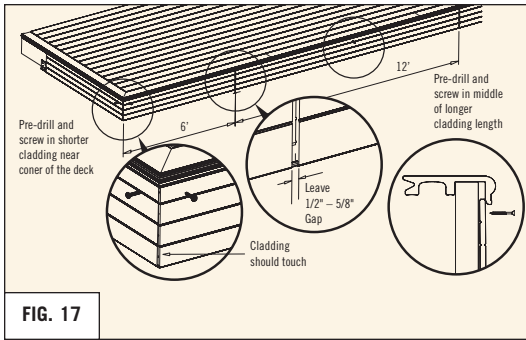

FIG. 17
- Pre-drill single 3/16" pilot holes in each length of cladding just under the bullnose lip as shown. The shorter cladding length at the corners of a deck should be predrilled a few inches away from the corner, while the longer cladding lengths in the middle of the deck should be predrilled in the middle of the length. Secure the cladding to the structure with single 1-1/2" screws. The cladding at the corner of the deck should touch, leaving no gap. Expansion gaps between adjacent lengths of cladding are required as shown. (**REFER TO FIG 17**)